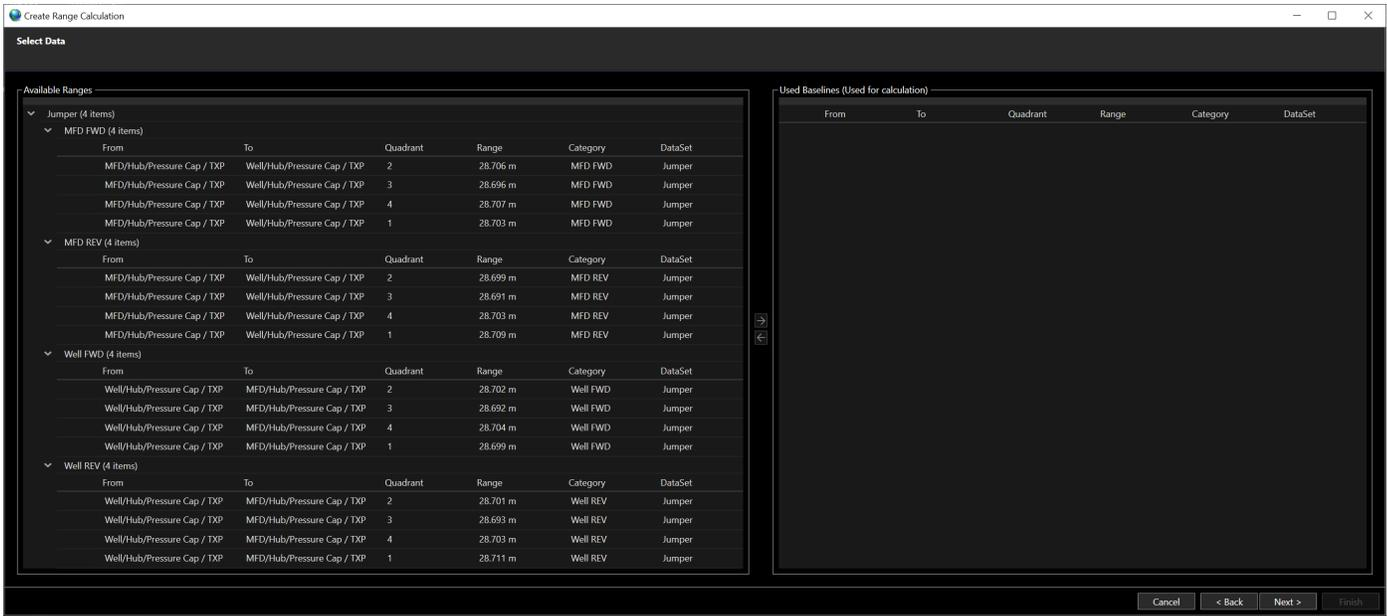

FIGURE 95 CREATE RANGE CALCULATION – SELECT DATA PAGE
- Click Next to open the Select Data page, see Figure 95.